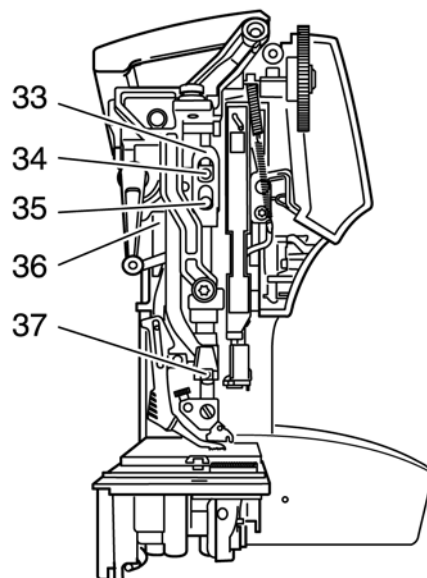

Fig. 21
the needle thread tension must be without play (fig. 21).
- Loosen the three screws 34, 35 and 37 (fig. 21).